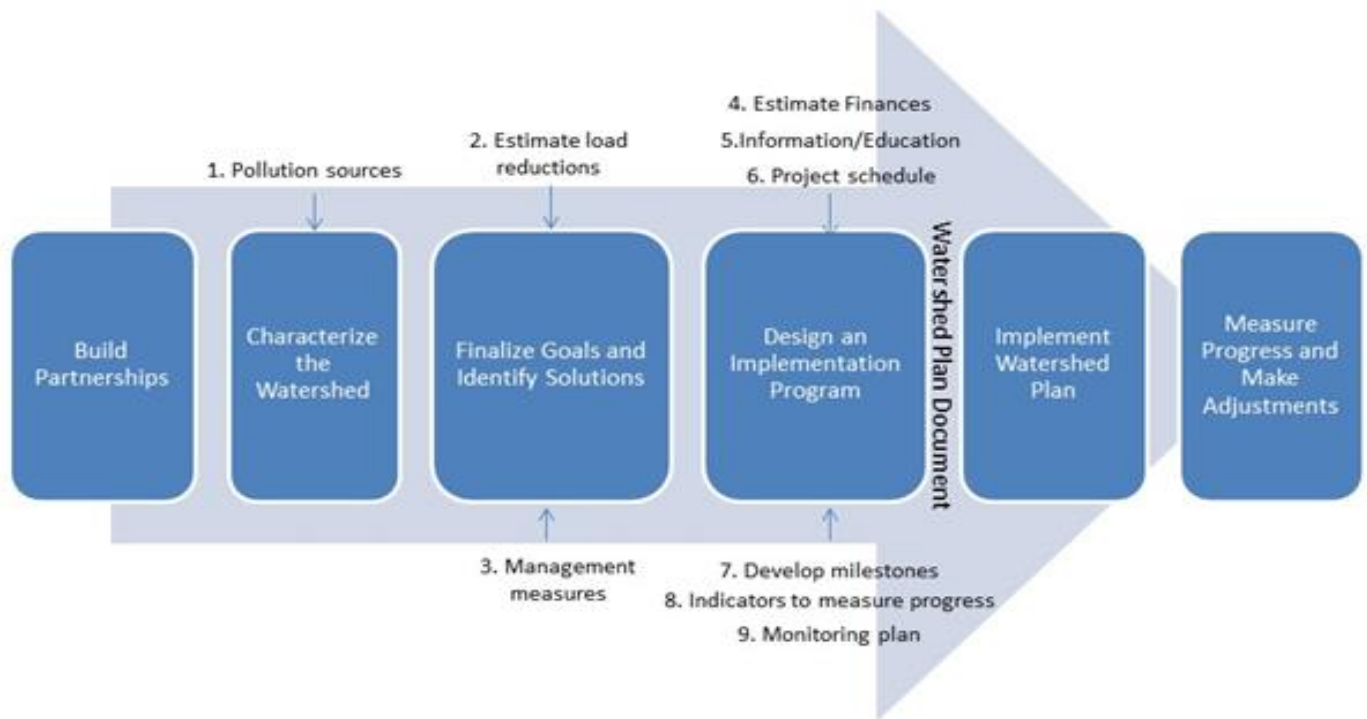

Figure 1. EPA Six-Step Watershed Planning Process.
This Implementation Framework was informed by discussions with the Utah County Publicly Owned Treatment Works (POTW) community and the ULWQS Steering Committee (SC) that occurred on August 5, 2021 and August 25, 2021, respectively. The comprehensive summary (Appendix A) of those discussions was organized into a traditional watershed planning construct that has been successfully applied in many watersheds in Utah. Specifically, EPA's *A Quick Guide to Developing Watershed Plans to Restore and Protect Our Waters* incorporates a process for addressing most of the considerations provided by the SC and POTW stakeholders (Figure 1).